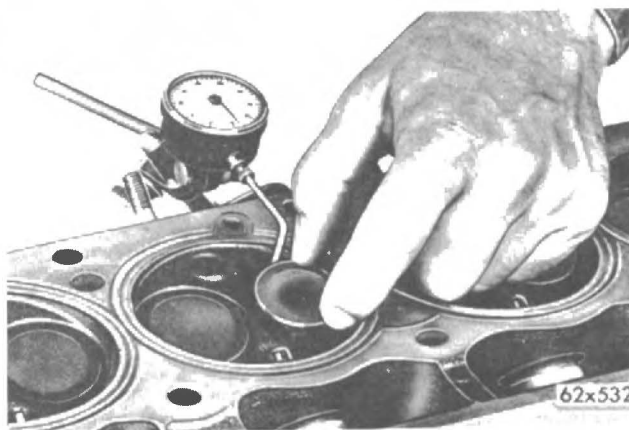

Fig. 12 - Measuring valve guide (Tool C-3339).
(5) Attach the dial indicator Tool C-3339 to the cylinder head and set it at right angle to the valve stem being measured (Fig. 12).